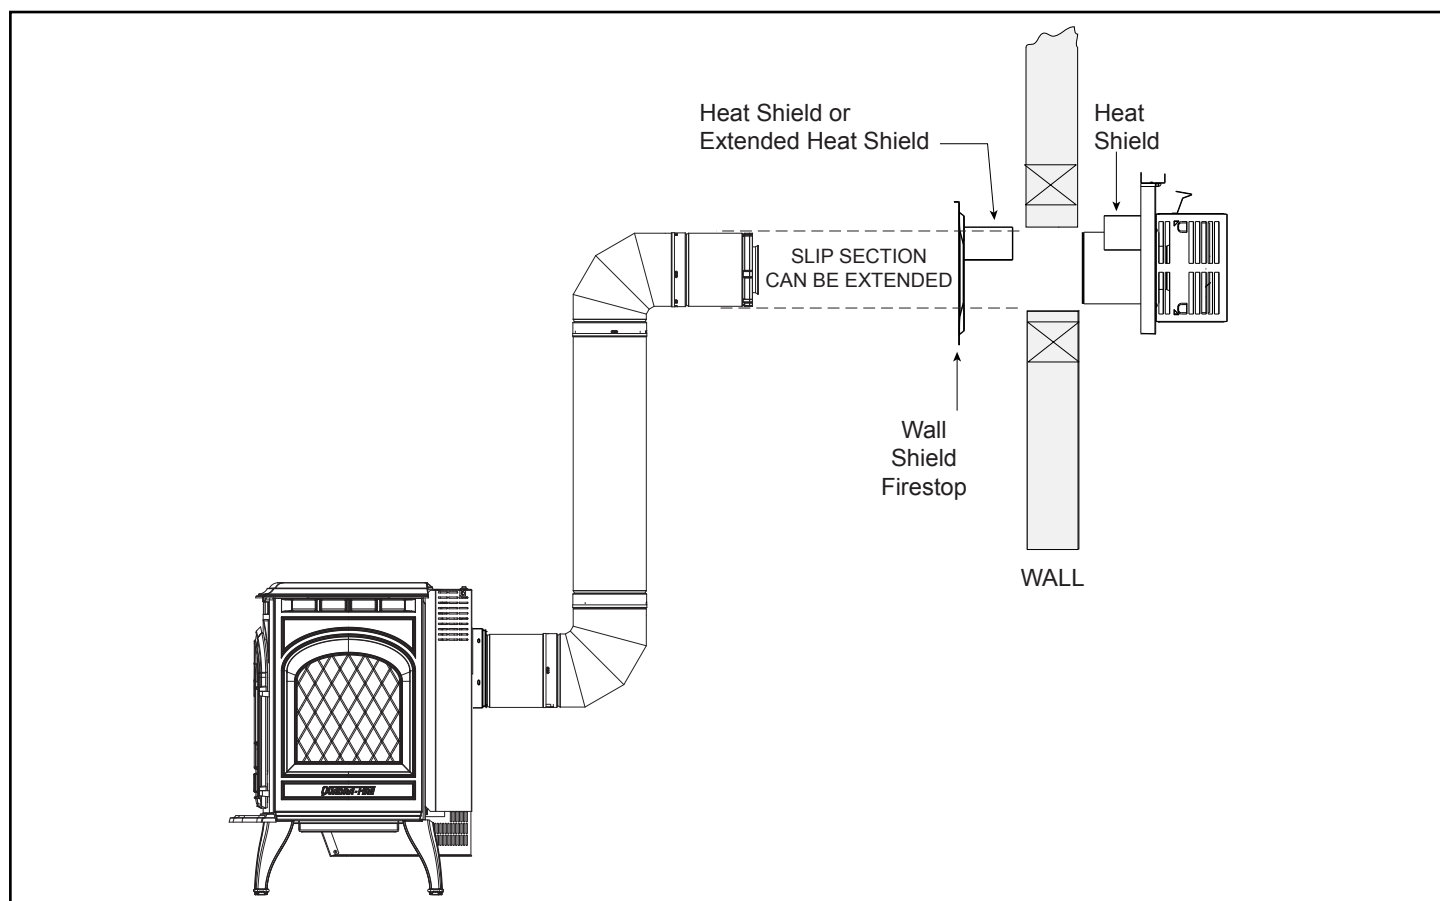

Figure 7.17 Venting through the wall
- **DO NOT** remove the heat shields attached to the wall shield firestop and the horizontal termination cap (shown in Figure 7.17).
There are two sections of the heat shield. One section is factory-attached to the wall shield firestop. The other section is factory-attached to the cap. See Figure 7.17.